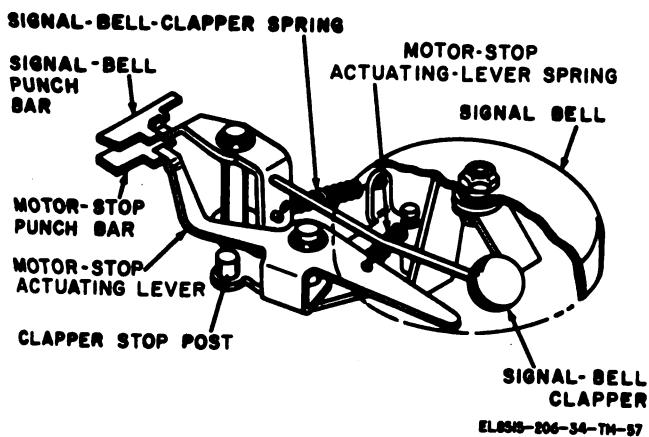

Figure 2-57. Signal bell mechanism.
b. *Ringling Signal Bell.* Immediately after the function-selecting arm is positioned (a above), a lobe of the function cam (fig. 2-30) causes the function-cam follower to pivot counterclockwise, moving the function-selecting arm against the signal-bell punch bar (fig. 2-57). The signal-bell punch bar moves inward, pivoting the signal-bell clapper against the signal bell. After the bell rings, the function cam moves the function-selecting arm away from the signal-bell punch bar; the signal-bell-clapper spring pulls the clapper away from the bell and the signal-bell punch bar moves to its normal outward position.
- 8 Lobe of print cam causes type-selecting arm to move forward (fig. 2-26). Lobe of function cam pivots function-cam-follower, causing function-selecting arm to push signal-bell punch bar inward (fig. 2-57).
(1) Immediately after the function-selecting arm is positioned (*a* above), a lobe of the function cam (fig. 2-30), causes the function-cam follower to pivot counterclockwise, and move the function-selecting arm against the motor stop punch bar (fig. 2-57). The motor-stop punch bar moves inward (platen in
| 9 | Letter H type bar swings upward: motion of type bar halted be-                                 | Motor-stop punch bar pivots motor-stop actuating lever (fig. 2-57); actuating lever   |